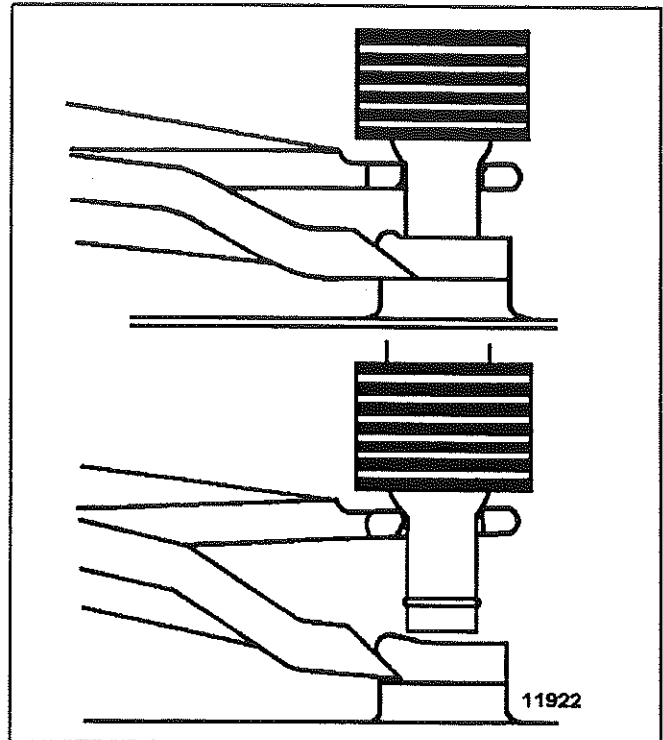

FIGURE 3 - RADIATOR TUBE REMOVAL
5. Squeeze the handles together and raise the tube only enough to clear lower rubber grommet. (Refer to Figure 3).